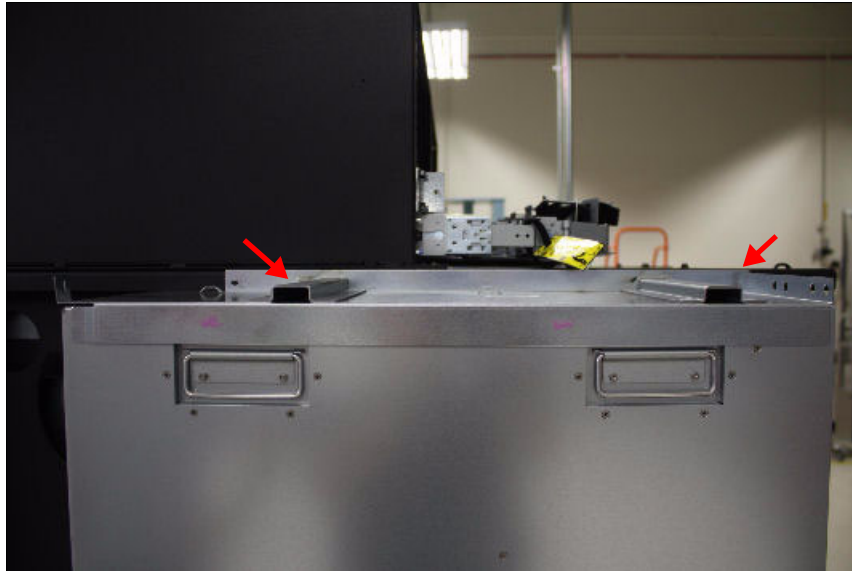

Figure 1-9 Top side BPE shelf with screw locations
3. Install the upper shelf (part number 00J0428) and use two screws (part number 97P5047) to secure it. See Figure 1-9.